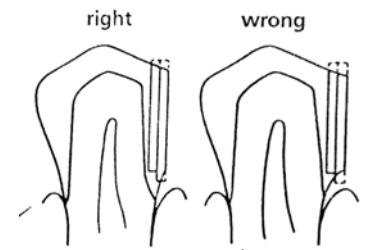

Fig. 1
1. The abutments should be prepared so there will be enough room for the intracoronal attachment without overcontouring the restoration (Fig. 1).